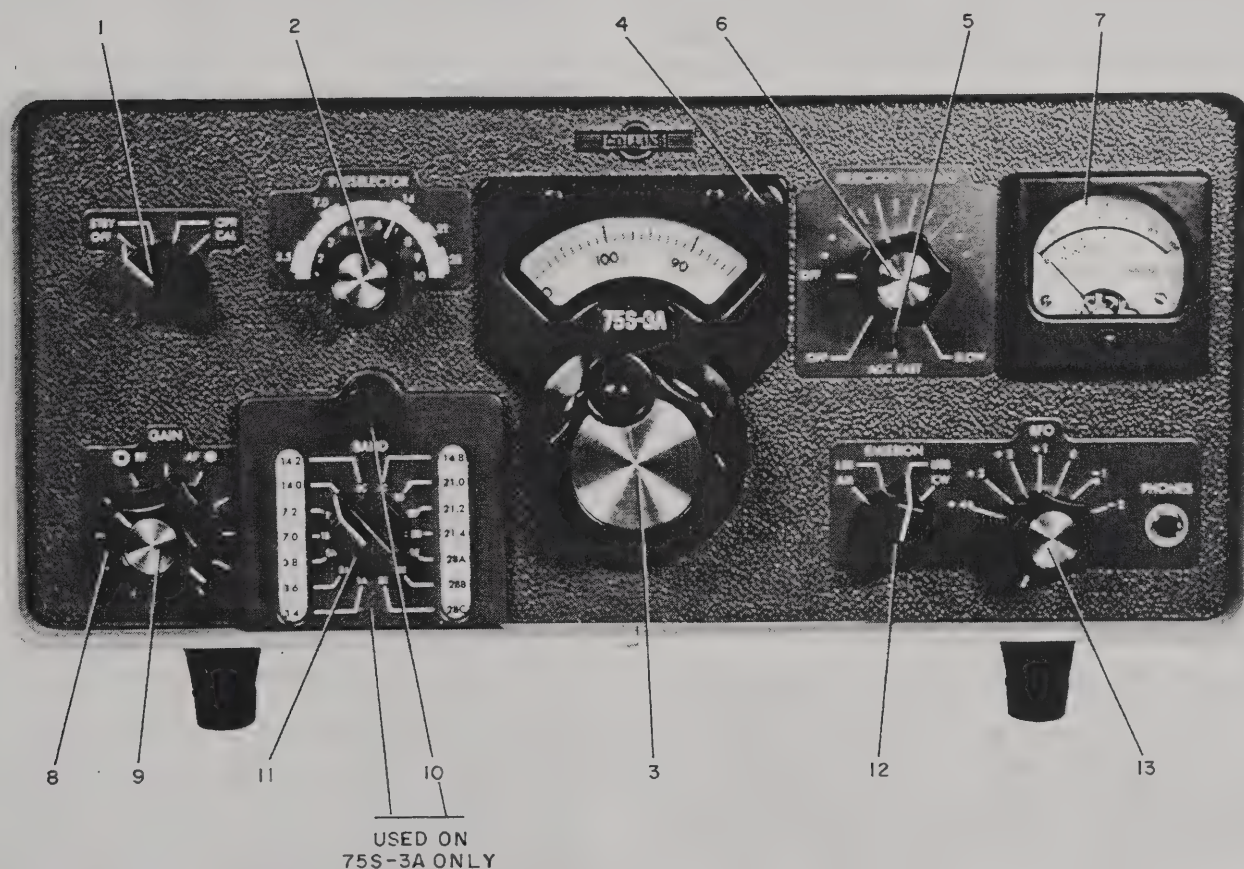

Figure 2-1. Operating Controls
- After making external connections, set controls as shown in figure 2-1.
- Set BAND switch (11) to desired frequency range. If receiver is 75S-3A, set crystal board selector (10) so desired set of bands appears in window.
- Set dial to 0, 100, or 200 with tuning knob (3).
- Adjust PRESELECTOR (2) for maximum signal or noise output.
- Adjust zero set knob (4) until dial is calibrated.
- Set controls as shown in figure 2-1, except set function switch (1) to OPR, and the BFO knob fully counterclockwise until a click is heard.
- Set EMISSION switch (12) to desired sideband.
- Tune in signal and adjust AFGAIN (9) for desired audio output level.